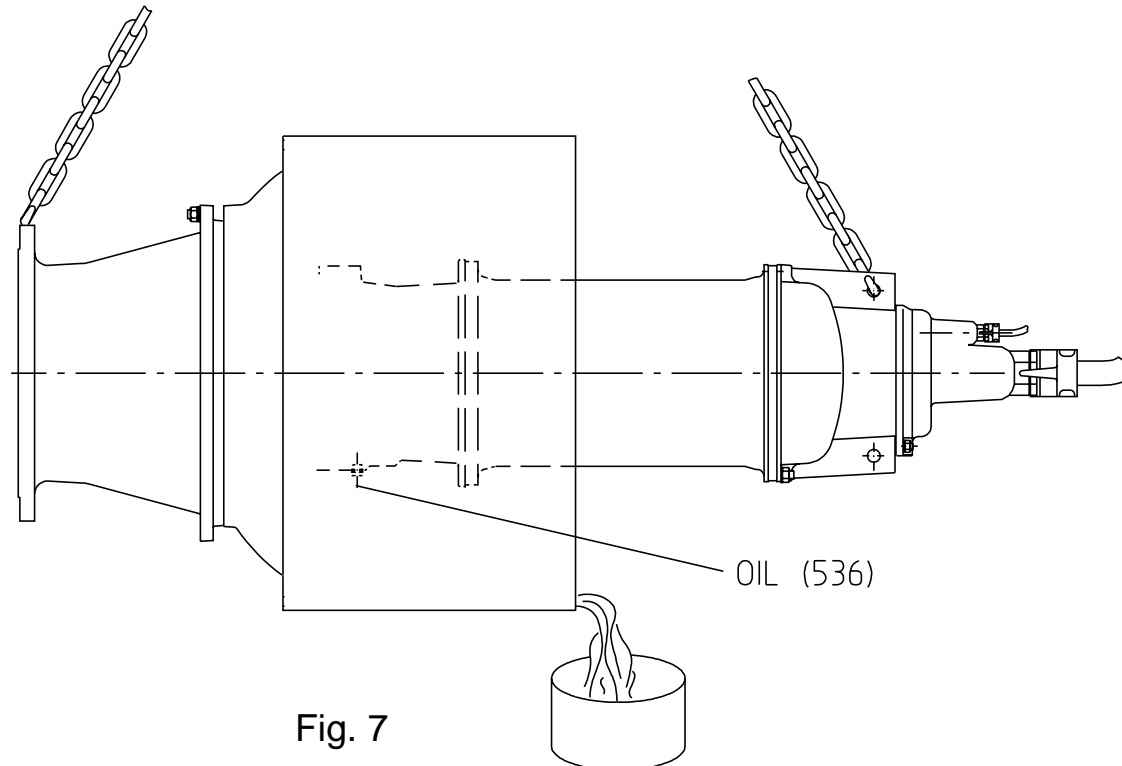

Fig. 7
Remove screw plug "OIL" (536) and drain oil chamber housing (504) completely, by turning the pump around slowly until opening "OIL" is upside down (Fig. 7).